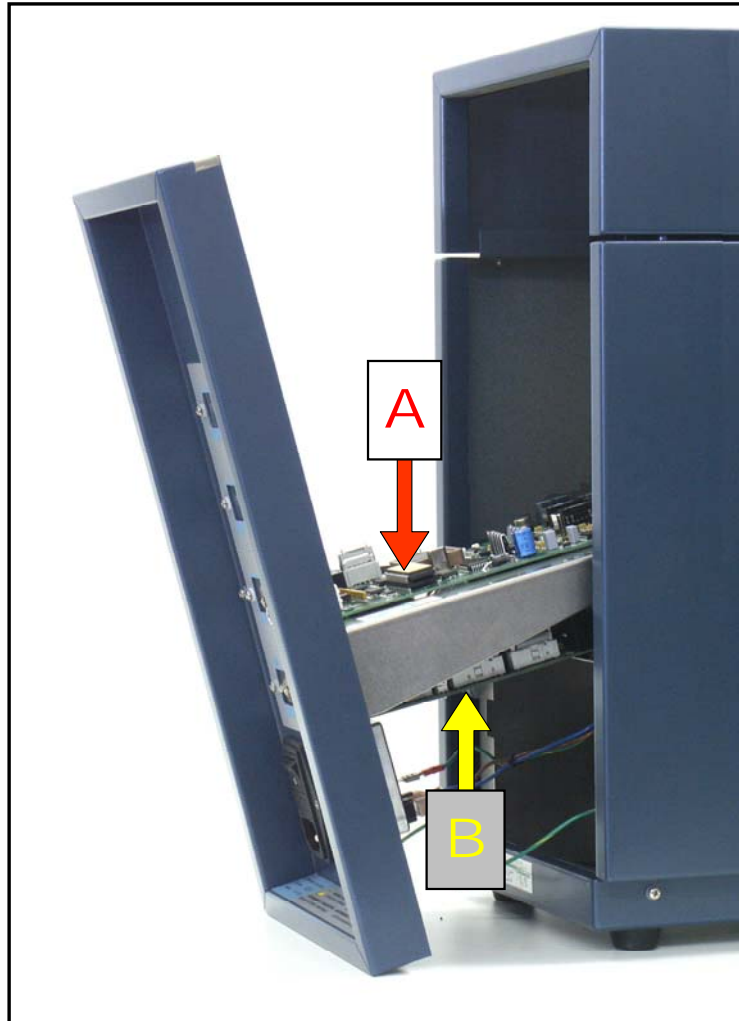

Figure 3. Detector with rear panel pulled backwards. (A) sensor board and (B): control board.
2. Subsequently, pull the rear panel backwards as far as depicted in figure 3. The rear panel is constrained by the length of the connected cables. The control board can rest on the isolated casing of the power supply compartment without any problem.